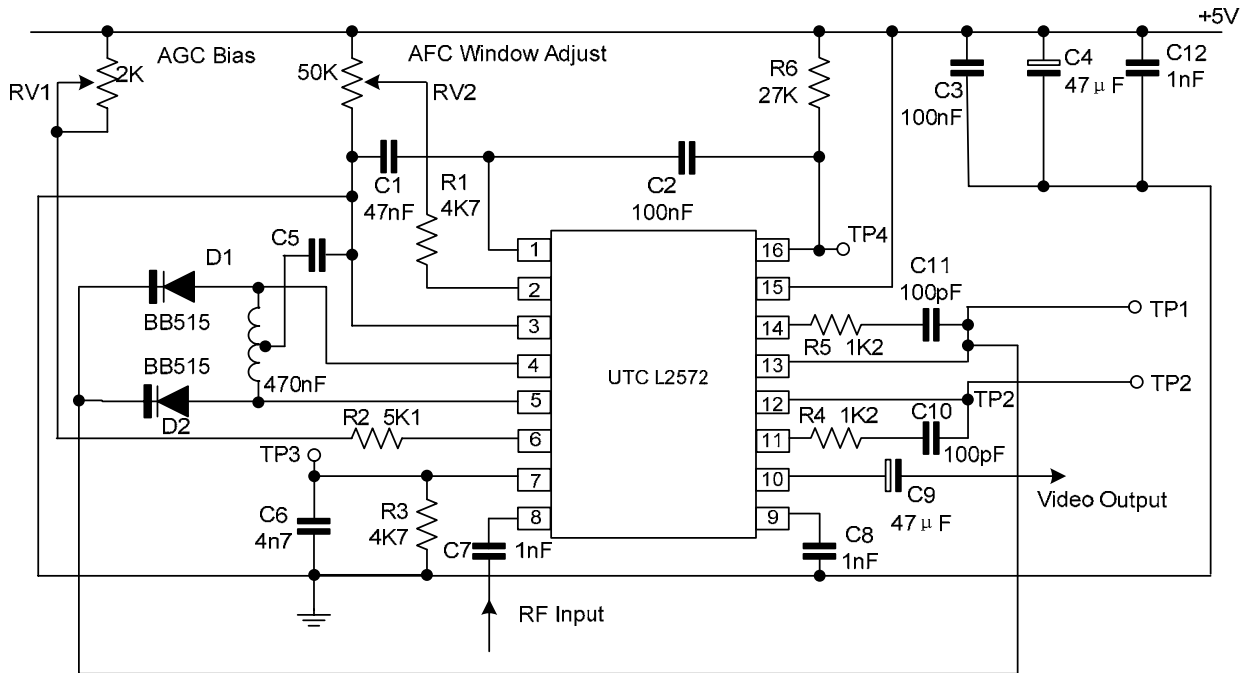
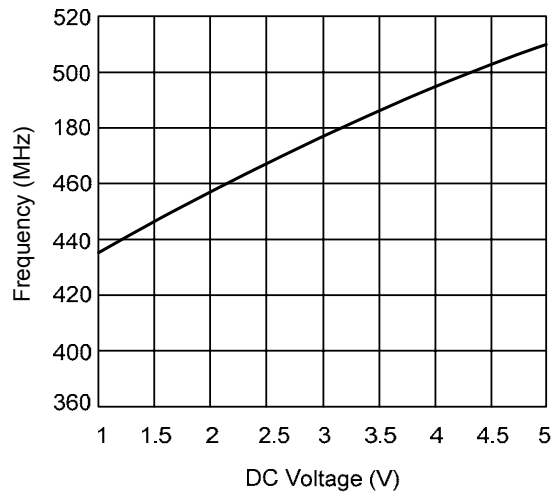
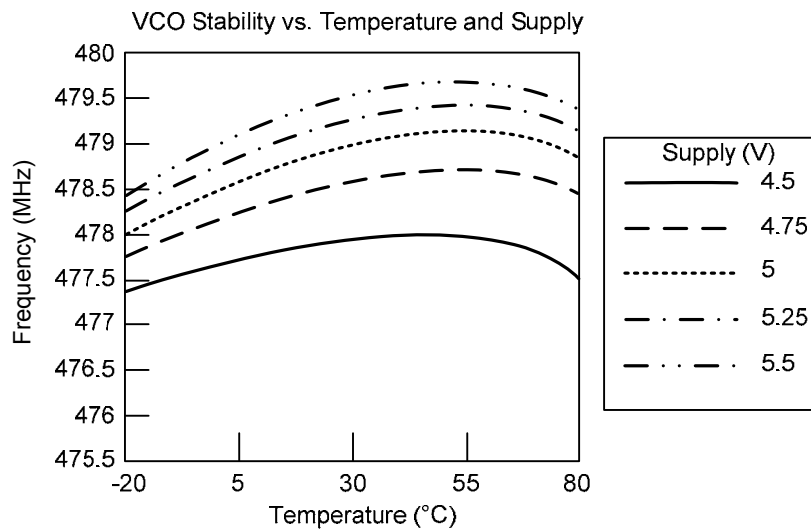

Fig. 1 Application Circuit
Fig. 3 Typical VCO Frequency vs. DC Control Voltage
Fig. 4 VCO Centre Frequency Uncompensated Temperature Stability
5. Assuming ambient temperature of +20°C and operating frequency of 479.5MHz set with V_{CC} @ 5.0V. Only applies to application shown in Fig. 1 also refer to Fig. 4.
The UTC L2572 as optimized for application in satellite receiver systems and requiring a minimum external component count is a wideband PLL FM demodulator. It includes all the elements required to construct a phase locked loop circuit, with the exception of an AFC detector circuit for generation of error signal to correct for any frequency drift in the outdoor unit local oscillator, and tuning components for the local oscillator contains a block diagram and Fig. 1 contains the typical application.
The preamplifier's output is fed to the mixer section which is of balanced design for low radiation. In this stage the RF signal is mixed with which is generated by an on-board oscillator, the local oscillator frequency. The oscillator block is optimized for high linearity over the normal deviation range and uses an external varactor tuned sustaining network. Fig. 3 contains a typical frequency versus voltage characteristic for the oscillator. Fig.4 shows the typical stability that the loop output is designed to compensate for first order temperature variation effects.